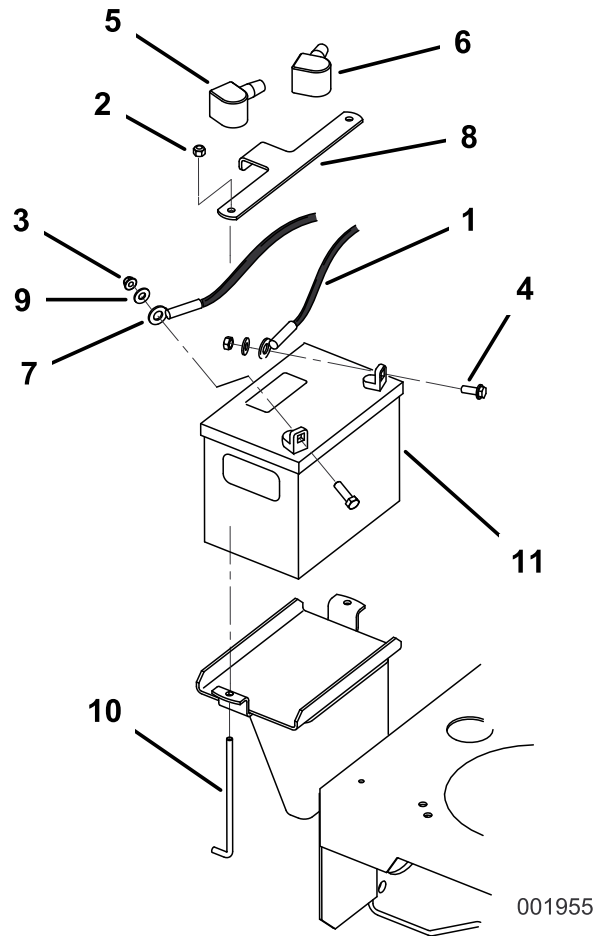

Figure 39
3. Lift the black rubber cover on the negative cable. Disconnect the negative battery cable from the negative (-) battery terminal (Figure 39).
4. Slide the red terminal boot off the positive (red) battery terminal. Then remove the positive (red) battery cable (Figure 39).
5. Remove the battery hold down plate (Figure 39) and remove the battery.
1. Place the battery onto the machine (Figure 39).
3. First, install the positive (red) battery cable to positive (+) battery terminal with a nut, washer and bolt (Figure 39). Slide the rubber cover over the post.
4. Then install the negative battery cable and ground wire to the negative (-) battery terminal with a nut, washer and bolt (Figure 39). Slide the rubber cover over the post.